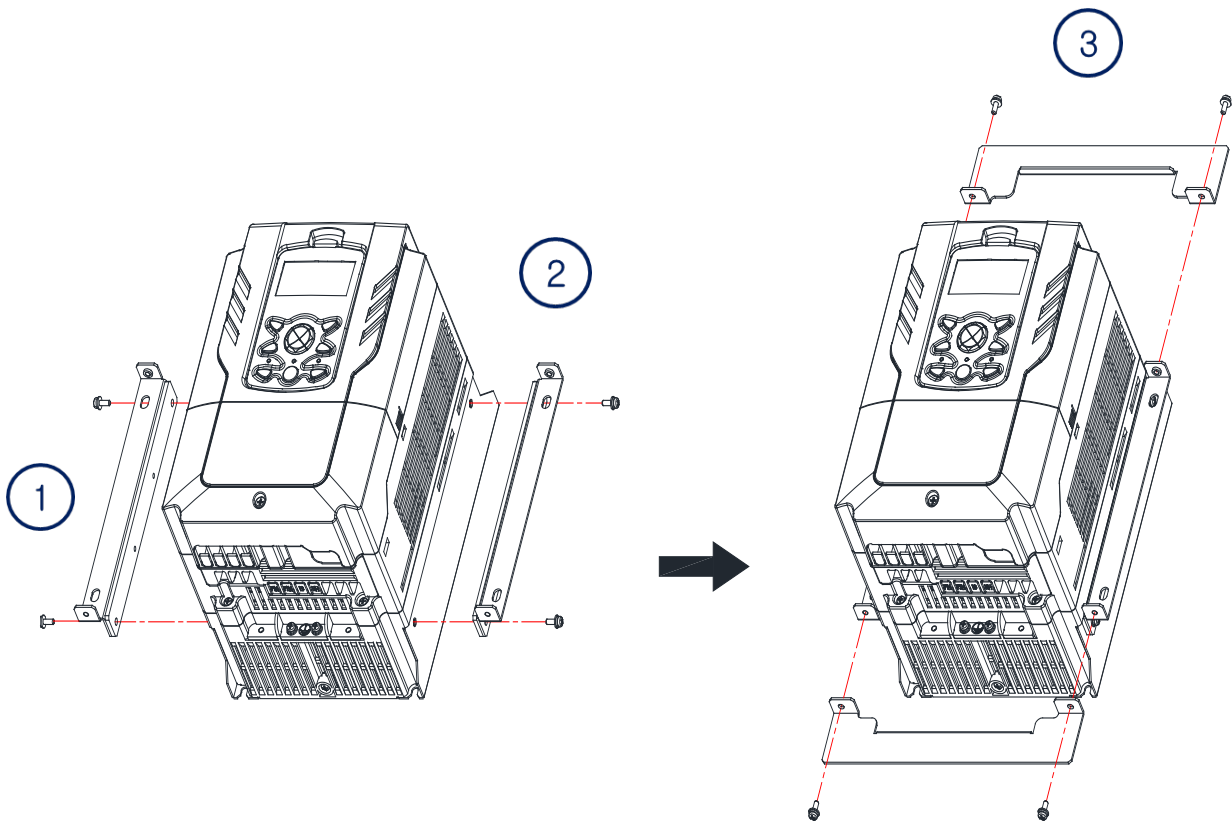

Figure 4. Install and Side Viewing
① Insert the Flange Option to fit on the product side Base fastening both sides positions as shown in the Figure 4.
② Using the included Bolt and tighten with the specific torque to prevent loose.
③ Fasten the Flange Option with the reminder using included Bolt.